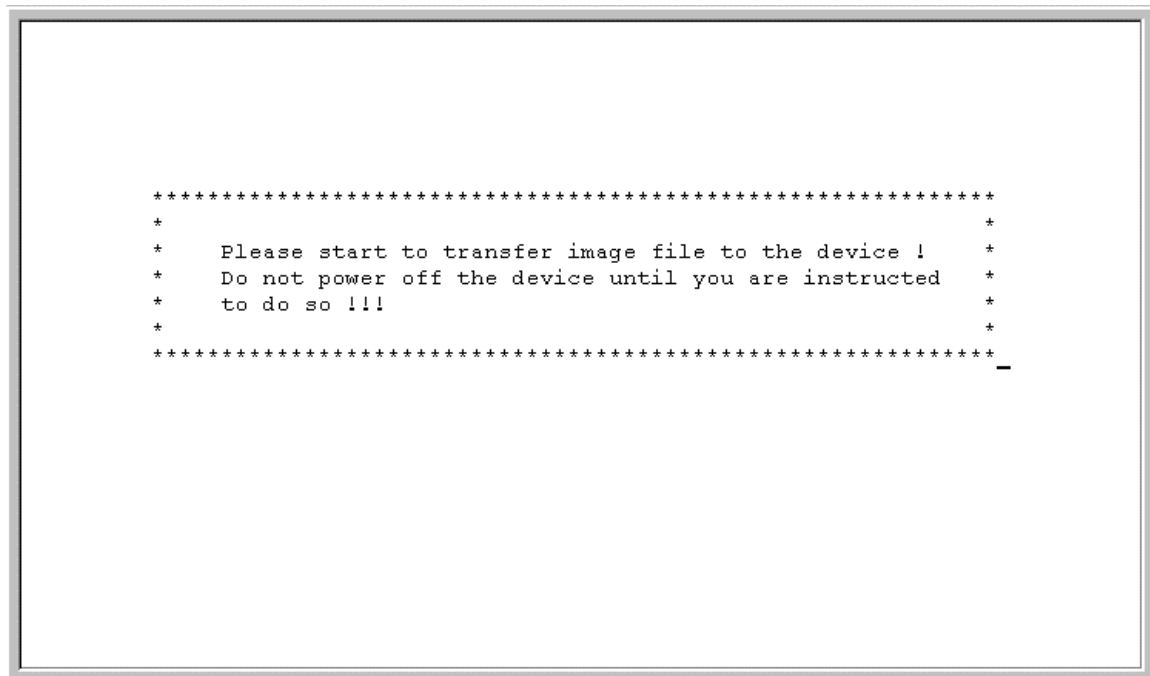
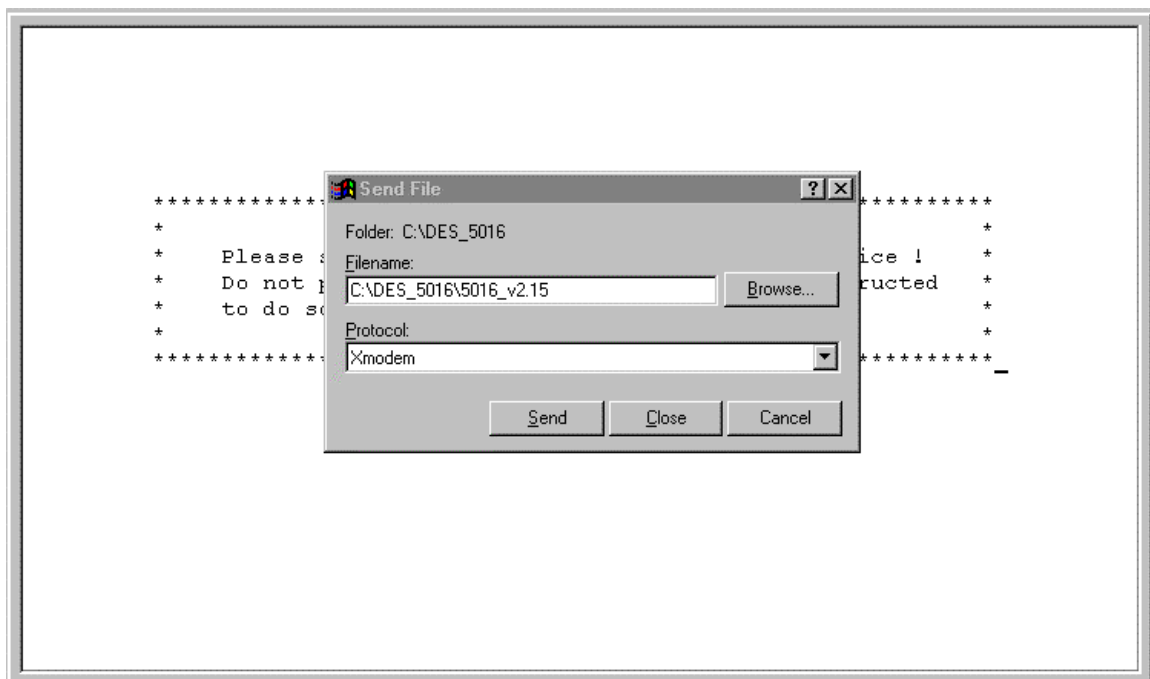

Figure 28: Transfer Firmware
Figure 29: Send File
4. You will see the panel displayed in Figure 28. Select Transfer on the HyperTerminal menu bar at the top of the screen.
5. Select Browse on the panel displayed in Figure 28. The browse option shows the contents of your hard drive. You must specify the path from the DES-5016 to the file the firmware is in. Navigate to the file the firmware is stored in and select it. Use XMODEM, displayed in Figure 29, to transfer the file.